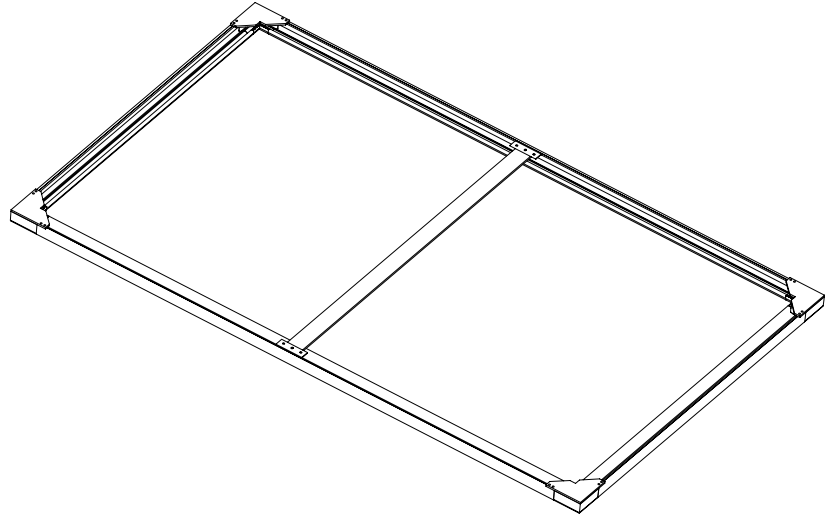
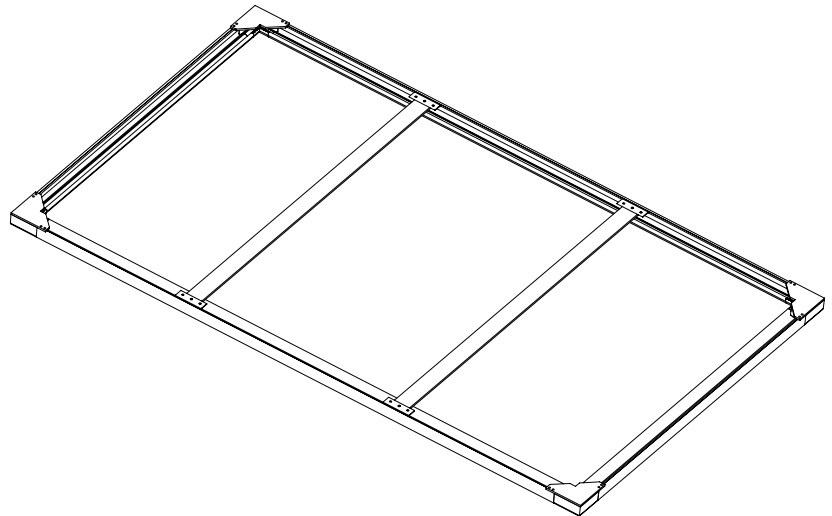

Figure 3
Figure 4
- ② For large Clarions, one or two vertical braces may be required. For a single vertical brace, center brace on back of screen frame (see Fig. 3). For two braces, place each brace approximately one-third of the way in from the sides of the frame (see Fig. 4).